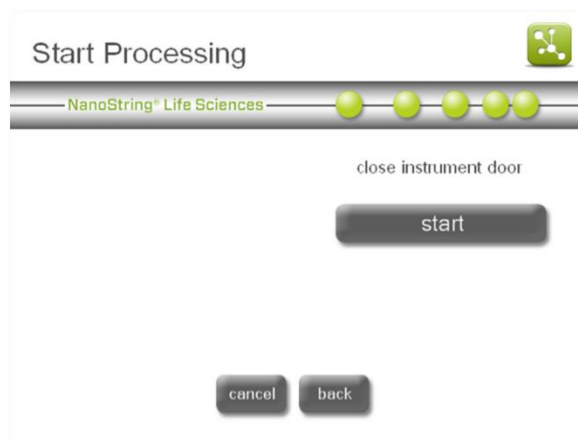

Figure 33: The 'Start Processing' screen.
15. The 'Start Processing' screen will appear (**Figure 33**). Press **start** when ready to begin processing.